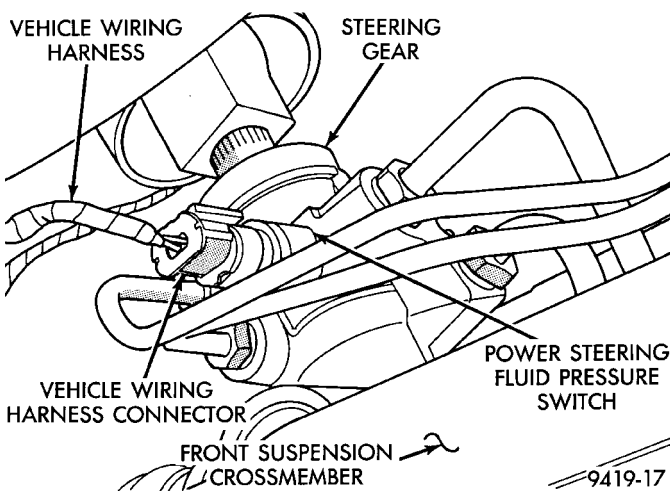

Fig. 7 Power Steering Pressure Switch Location On Steering Gear
The power steering pressure switch (Fig. 7) is mounted directly to the power steering gear on vehicle's requiring its usage.
- (1) Disconnect negative battery cable from the negative post of the battery. Be sure cable is isolated from negative post on battery.
- (2) Raise vehicle.
- (3) Locate power steering pressure switch (Fig. 7) on back side of power steering gear.
- (4) Remove vehicle wiring harness connector (Fig. 7), from power steering pressure switch.
- (5) Remove power steering pressure switch, from power steering gear.
- (1) By hand, install the power steering pressure switch into the power steering gear until fully seated. Then tighten the power steering pressure switch to a maximum torque of 8 N·m (70 in. lbs.).
- (2) Install vehicle wiring harness connector (Fig. 7) onto power steering pressure switch. Be sure latch on wiring harness connector is fully engaged with locking tab on power steering pressure switch.